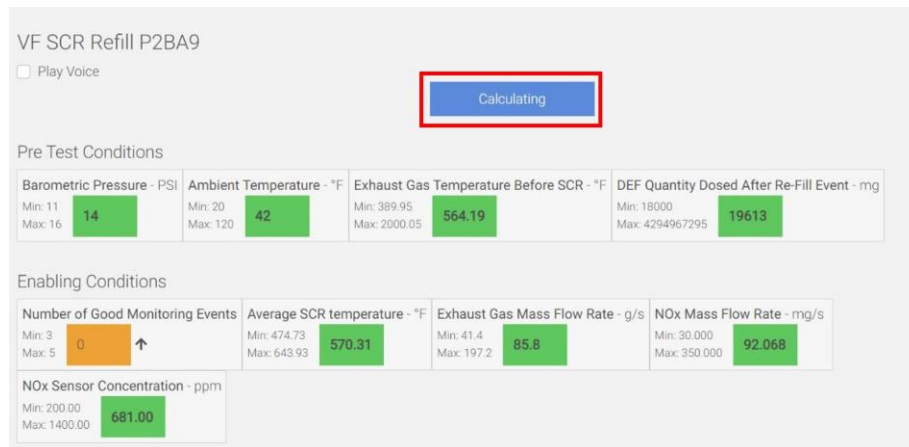

Figure 6.
15. Safely drive the vehicle in an environment that has routine stops (e.g., country road with routine stops or stop and go traffic along a boulevard). The monitor runs best during long, mild, steady accelerations from 0 to 55-60 mph (88-96 kph), using 20-40% throttle. While performing the accelerations, the system will start transitioning from “Starting” to “Calculating”. Please see (Figure 6). The longer the system indicates “Calculating”, during each acceleration, the better chance you